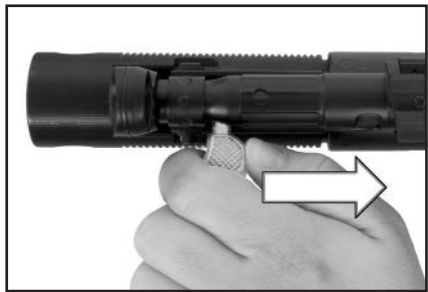

Fig. 18 – Move the bolt rearward
3. Open and lock the bolt to the rear. Grasping the charging handle on the left side of the receiver (located adjacent of the front sight) and move the bolt to the rear while keeping the muzzle pointed in a safe direction (Fig. 18). Place the charging handle in the upward, locking recess notch (Fig. 19 Ⓐ and Ⓑ). The bolt should be locked in the rear position. Watch for a cartridge or empty case to be ejected out through the ejection port.